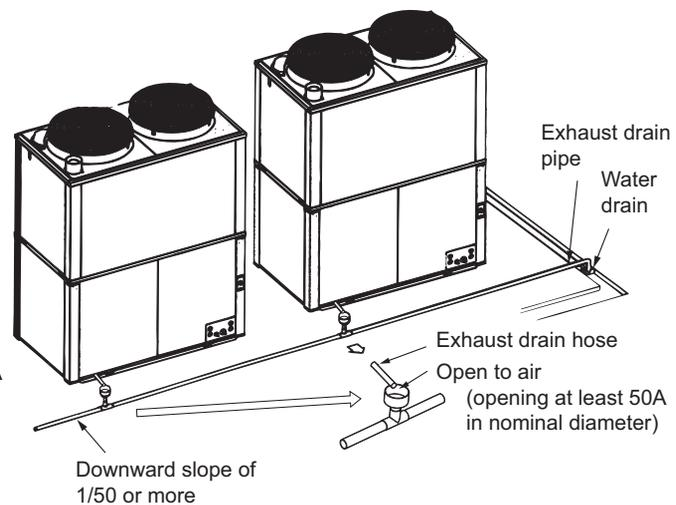

Fig. 13 Draining the exhaust into a water drain (roof)
- If installing the outdoor unit on a roof, extend the exhaust drain pipe to the water drain (as shown in Fig. 13).